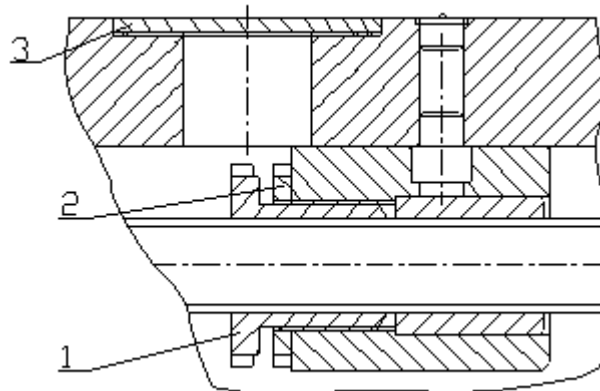

Fig.6-4. Lower carriage cross screw and nut adjustment
6.2.3. ADJUSTMENT THE CLEARANCE BETWEEN LOWER CARRIAGE CROSS SCREW AND NUT (See Fig.6-4)